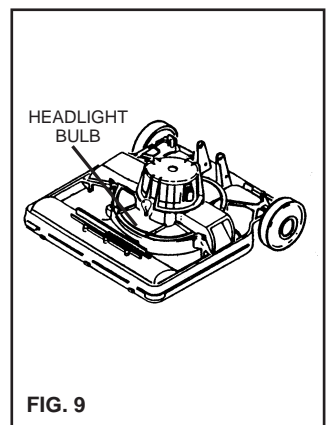

FIG. 9
6. To place new bulb press into socket (fig 9).